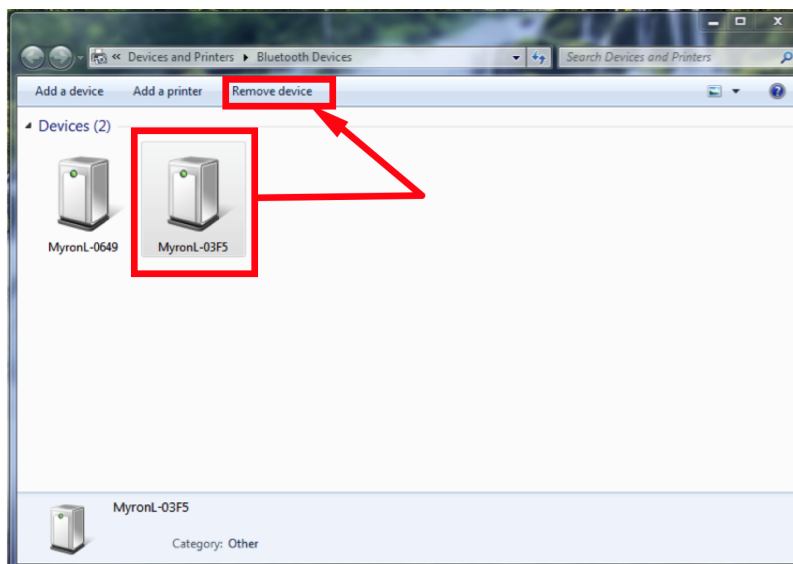

Figure 24
3) Click on the "Remove Device" Link at the at the top of the dialogue box (Figure 24).